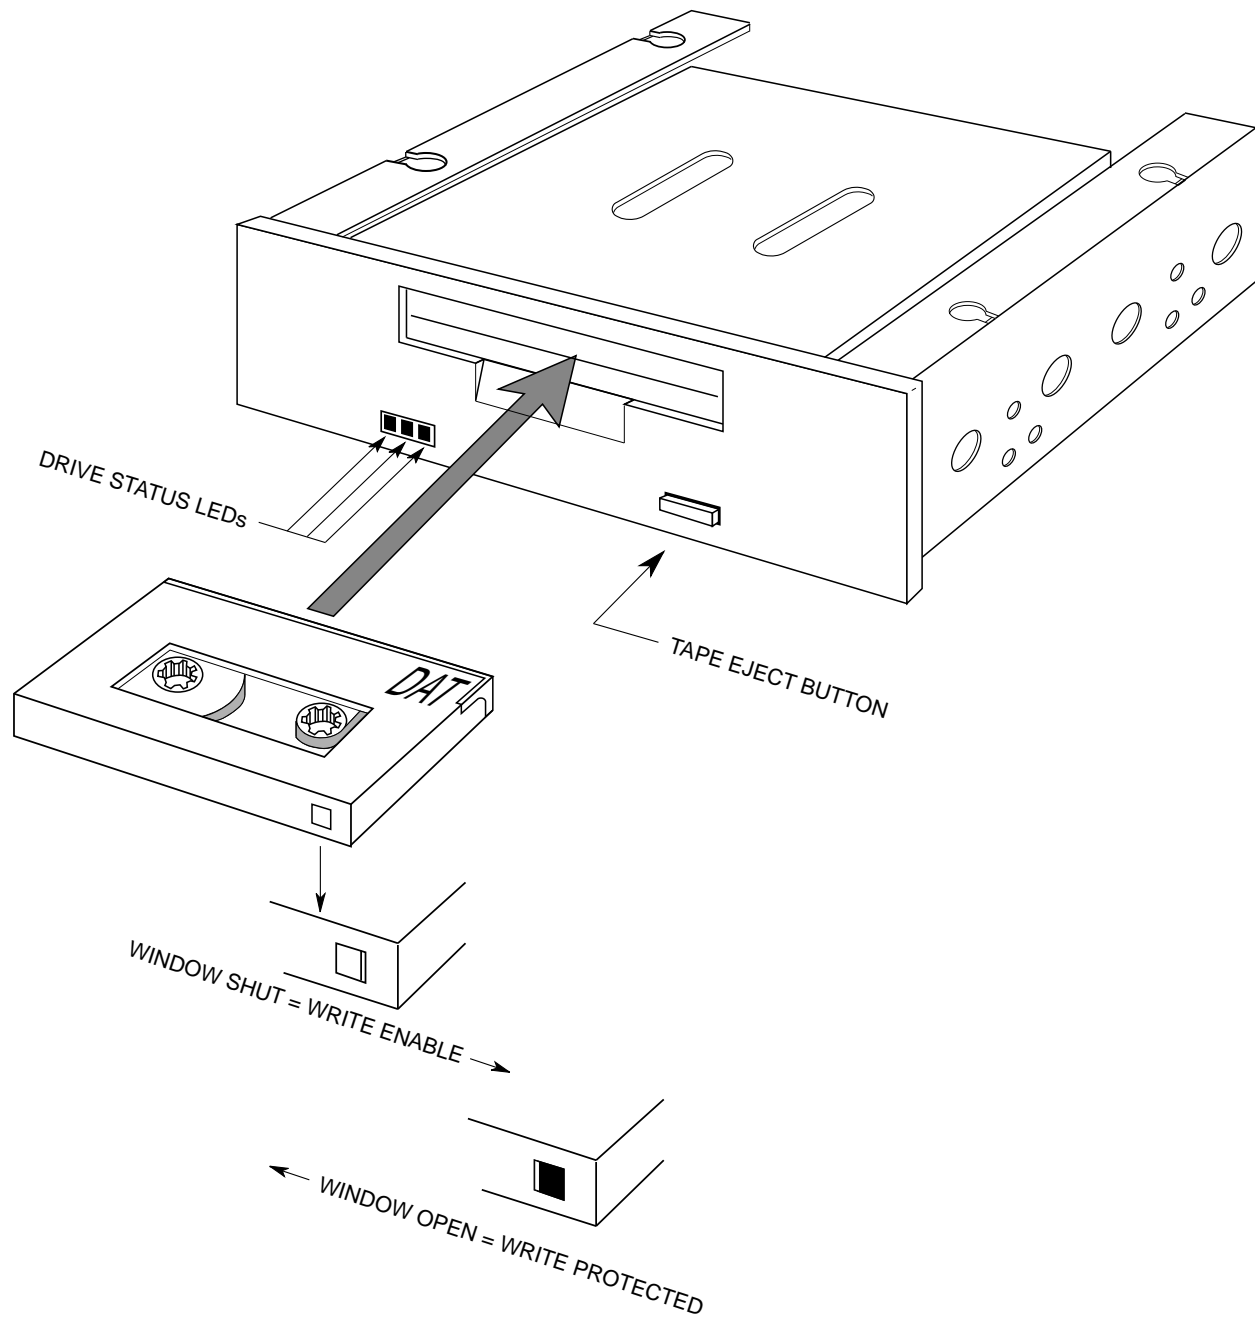

Figure 21 - Loading a DAT Tape Cartridge
1. To save data to the tape, the window on the tape cartridge must be in the write enable position. Figure 21 shows the tape window in both "write enable" and "write protected" positions.
2. The 4mm tape inserts as shown in Figure 21. As you insert the tape through the tape door, the DAT drive takes over the load operation by mechanically pulling the tape cartridge into the load position, just like your home VCR.